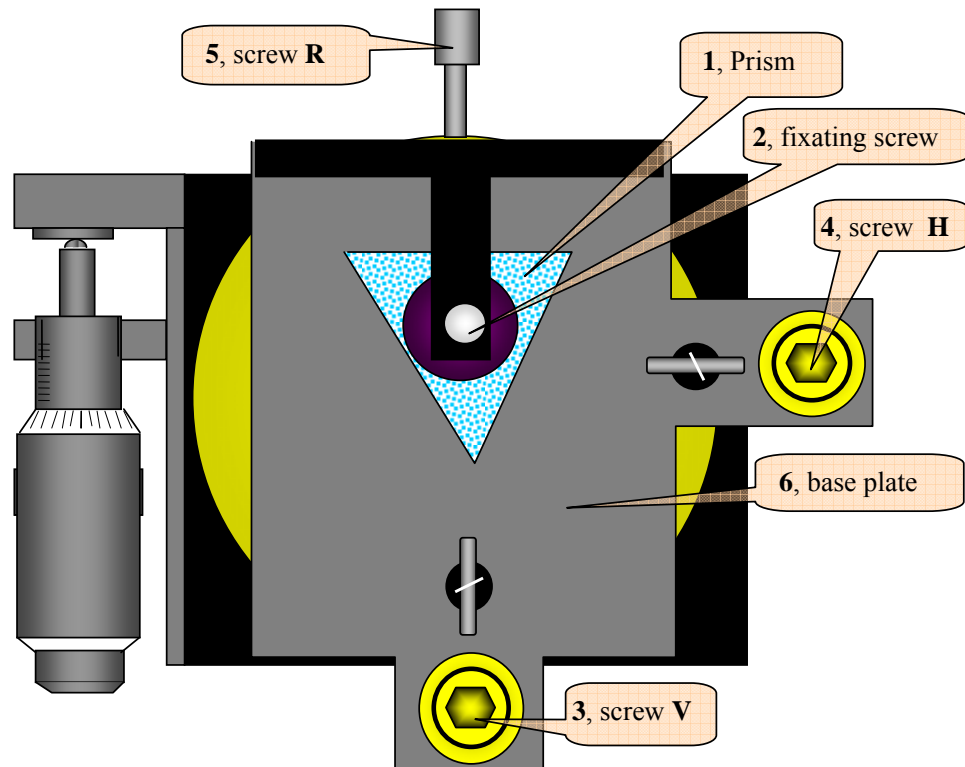

Fig.5. Schematic picture of prisms fixation and service
- Loosen but don't remove the rotation fixation screw R (fig. 5).